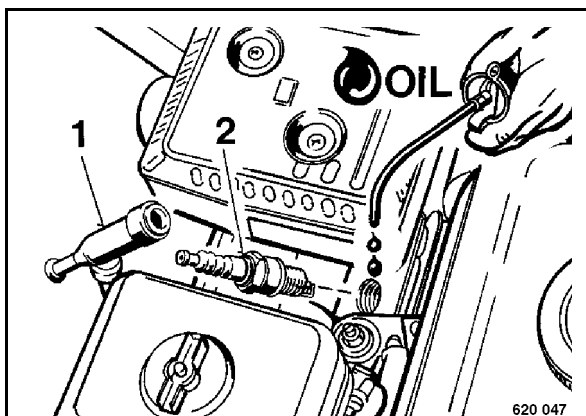

Fig. 78
- Pull off the spark plug socket (1) (Fig. 78) and unscrew the spark plug (2).